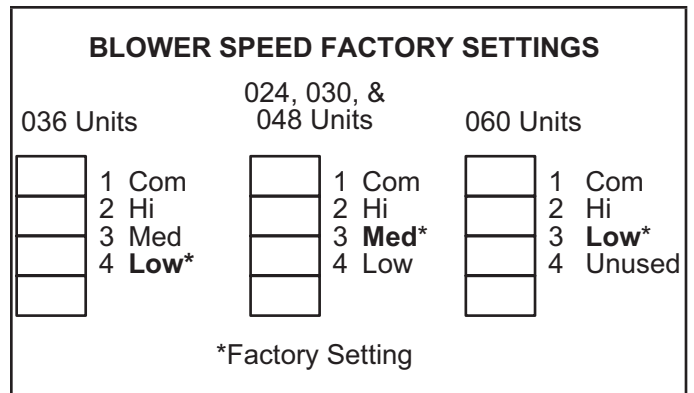

FIGURE 6
- 3 - Use figure 6 to determine the factory set blower speed.